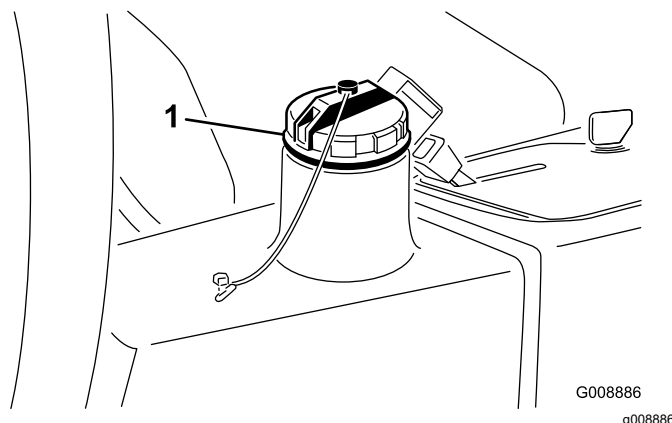

Figure 76
- Mobil EAL EnviroSyn H 46 (US)
2. Clean the area around the filler neck and cap of the hydraulic tank (Figure 76).